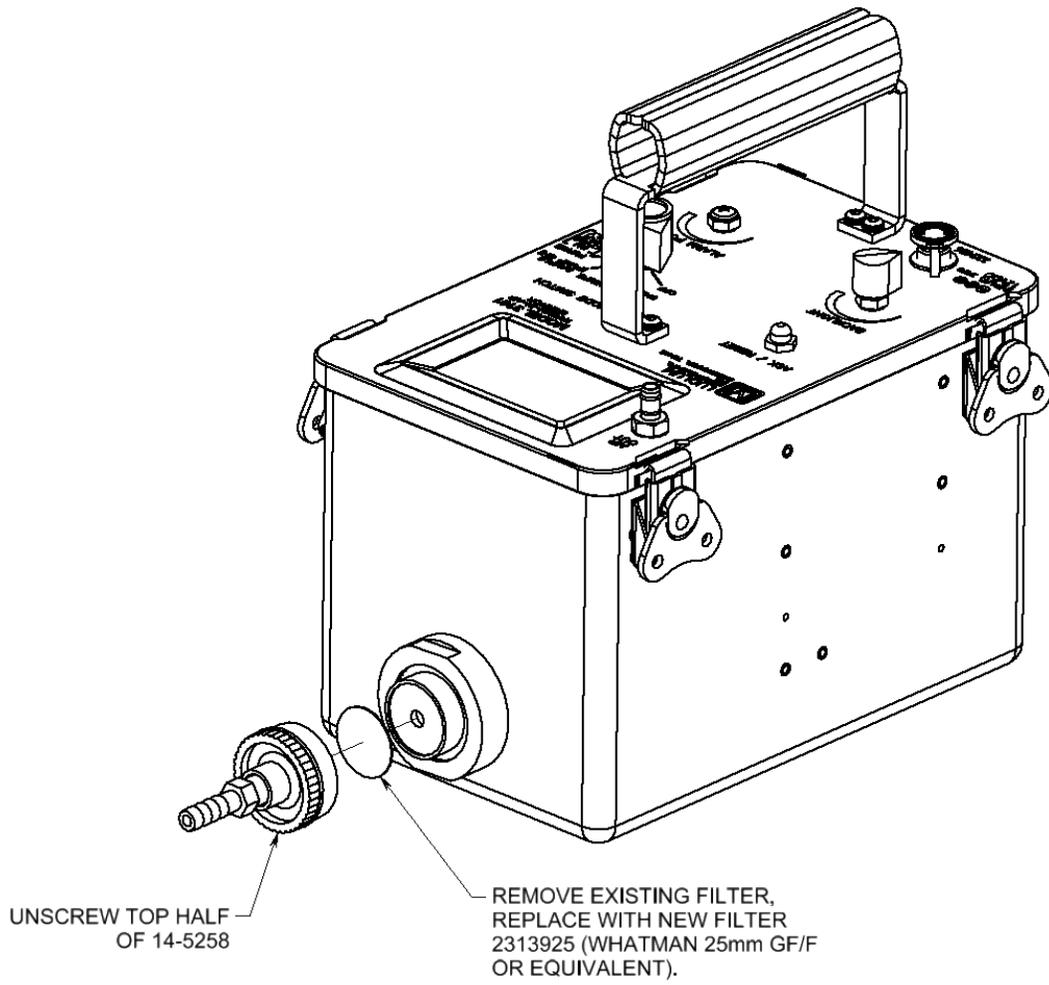

Figure 5-5. Particulate Filter Replacement.
5.4 REPLACING PARTICULATE FILTER. The particulate filter is user-replaceable and is located at the front of the instrument. Under normal use, it will gradually become clogged with trapped particles and limit the airflow. In the event the particulate filter at the front of the instrument needs to be inspected and/or replaced, perform the following procedure. (See Figure 5-5.)
5.4.2 Particulate Filter Replacement. Place Whatman 25mm GF/F filter (or equivalent) in the filter housing base (connected to the instrument). Screw top half of housing onto bottom half until hand tight. See Figure 5-5.